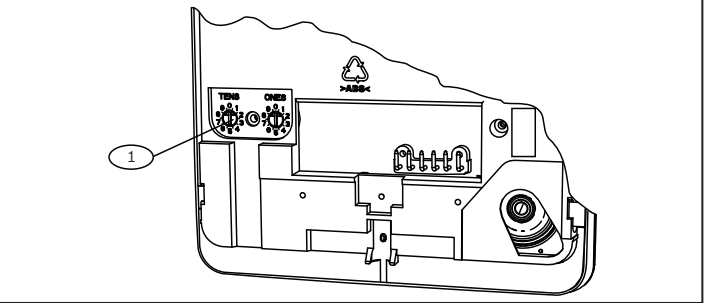

Figure 2.3: Switches location
3. Look at the back of the keypad, and locate the switches. Refer to *Figure 2.3*